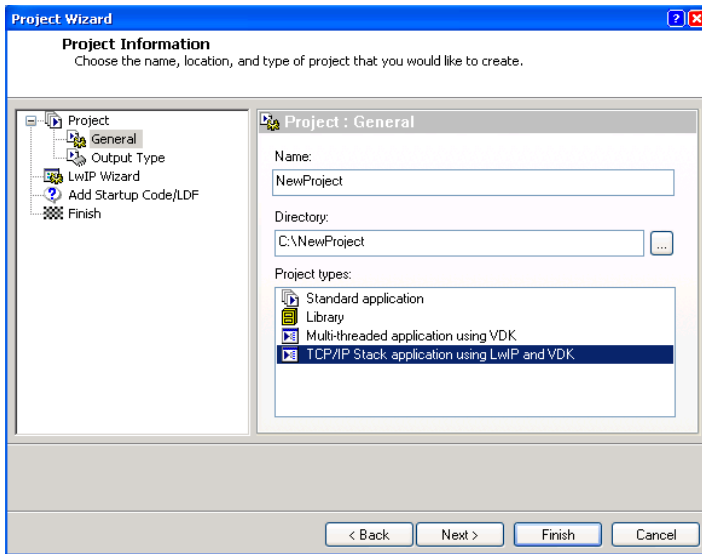

Figure 2-1. VDK Project with LwIP TCP/IP Stack
1. Select **File**→**New**→**Project** to start a **Project Wizard**. On the **Project: General** page, choose the name and directory for the project, then select **TCP/IP Stack application using LwIP and VDK** as the project type (Figure 2-1). Click **Next**.